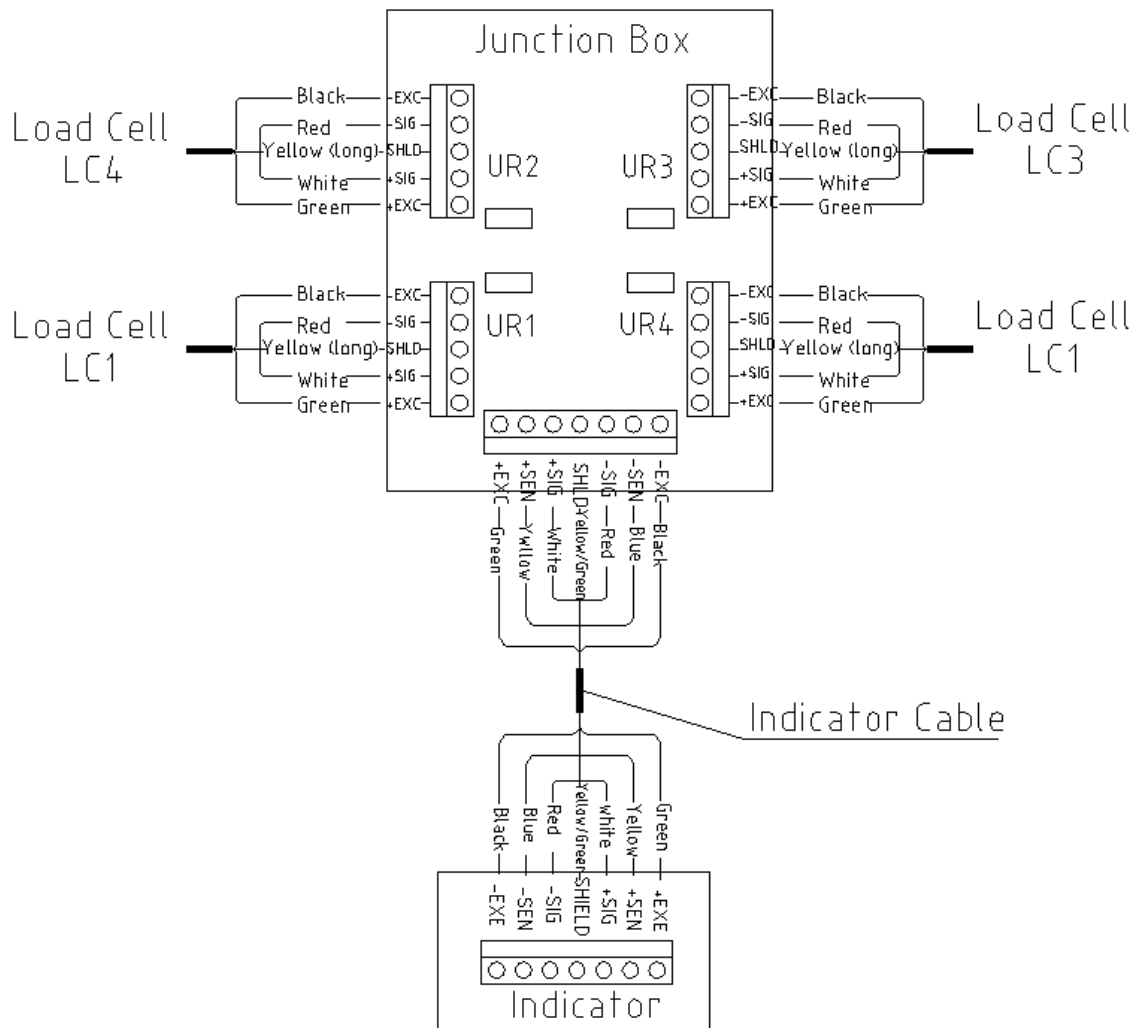

Fig. 4-1 System Connection
4.2.1 Connect the weighing platform to the indicator following the below Indicator Cable Color table. Detail wiring see Fig. 4-1 system connection and IND231 manual.
- Check all cable connections to make sure they are wired correctly. The wiring color codes are given in Fig 4-1 system connection.